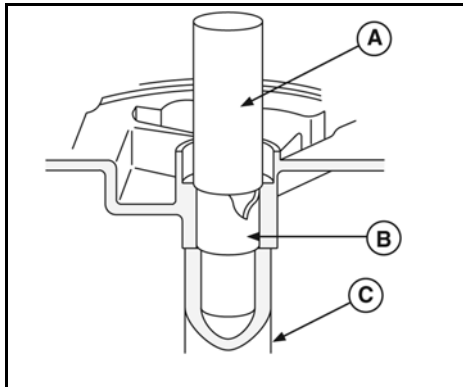

Figure 10
4. Place cylinder support tool (**C**, Figure 10) under cylinder or cover/sump bearing (**B**). Press driver until bearing is extracted.